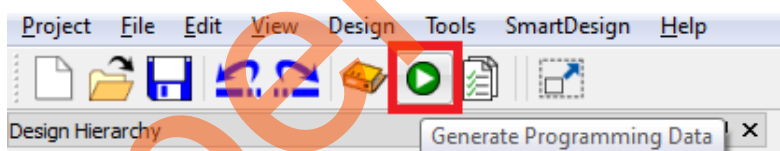

Figure 27 • Generate Programming Data
5. Click **Generate Programming Data** as shown in Figure 27 to complete place and route, and generate the programming file.